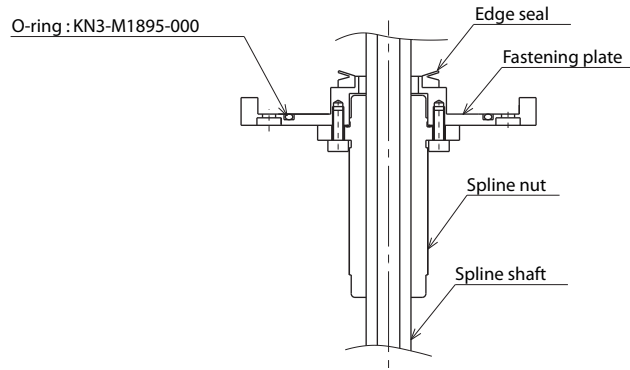

Fig. 5-17
- 23) Next, secure the fastening plate to the harmonic drive with the button bolts (M3×20L, 6 pieces) coated with small amounts of "Screw Lock". (See Fig. 5-17.) At this point, be careful to keep the spline shaft from coming off the spline nut.